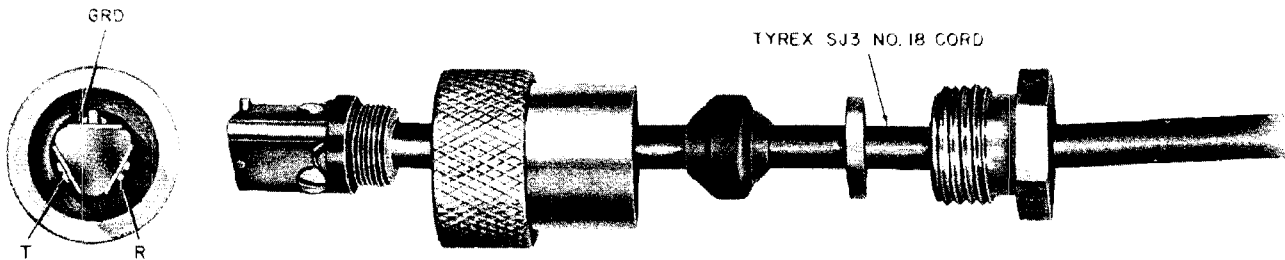

Fig. 7—KS-8419 Plug
2.08 The KS-8419 plug (Fig. 7) is a 3-contact, brass plug intended for connecting telephone sets installed on boats, trains, or auto trailers to outdoor jacks of PBX or CO lines. This plug is intended for use with KS-8420 or KS-8421 jacks.
- (1) Plug components are assembled to TYREX SJ3 No. 18 cord or equivalent (Fig. 7).
- (2) In TYREX SJ3 No. 18 cord or equivalent, the black conductor should be used for the ring (negative) side of the line. The white conductor should be used for tip (positive) side of the line. The green conductor is the ground conductor.
- (3) One terminal of the KS-8419 plug has a small lug protruding from the contact. This lug and the notched terminal on KS-8420 and KS-8421 jacks are provided to ensure that the plug is inserted in one position only.